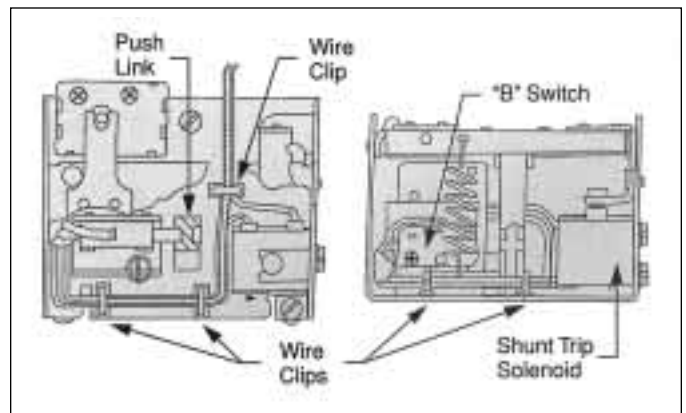
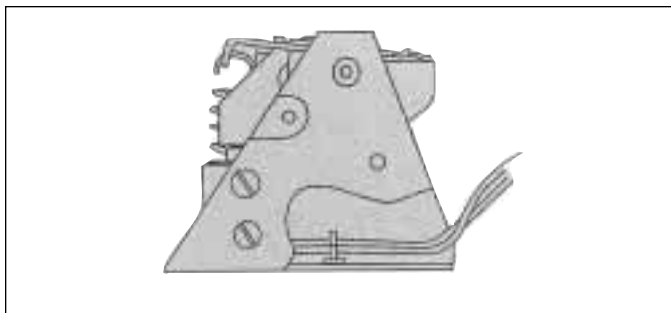

Figure 3. Routing Wires into the Wire Clips
Figure 4. Routing of Wires
7. Remove the trip unit by pulling it off the trip unit plug (See Figure 3).
- After the breaker cover and trip unit are removed locate the reset mechanism (See Figure 4, below, and Figure 3, Page 2).
7. After the "B" switch and the shunt trips solenoid are secured, route wires into the three wire clips (Figure 3) Make sure that wires fit inside the wire clips and do not interfere with the pusher link.
8. Route all wires between wire shield and mid-barrier. Make sure to route the wires toward the bottom of the trough, so that the wires fit into the mid-barrier trough (Figure 4).
8. Bundle wires using the wire ties provided and route them as shown in Figure 4, Page 2.